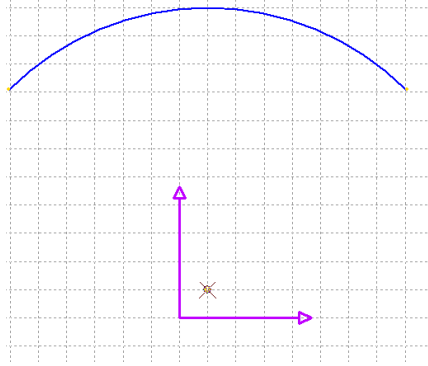

Figure 2.1-10: 'Snap' to existing center point to create a new arc
3. When the cursor changes to a small circle with a cross (the snap icon, Figure 2.1-10), **LEFT-CLICK** to create the arc center.